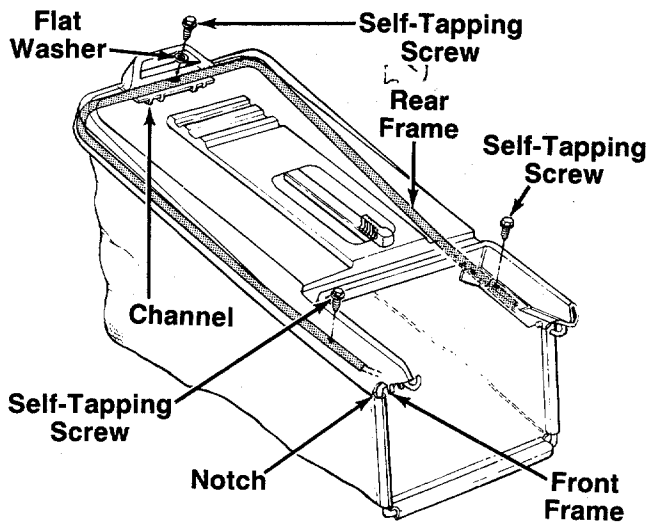

FIGURE 16.
4. Attach the hardtop cover to the grass catcher as follows. See figure 16.
- c. Attach rear of cover to frame using the flat washer and one self-tapping screw as shown in figure 16. Attach the sides of the cover to frame with the other two self-tapping screws.